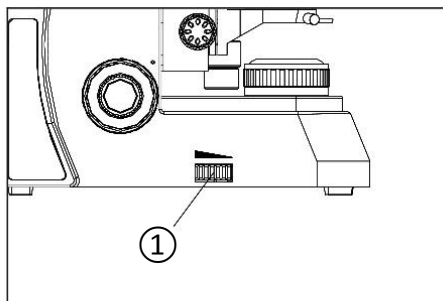

Fig. 6
With the microscope turned on, rotate the light adjustment knob ① until the illumination is comfortable for observation. Rotate the light adjustment knob clockwise to raise the voltage and brightness. Rotate the light adjustment knob counterclockwise to lower the voltage and brightness (see Fig. 6).